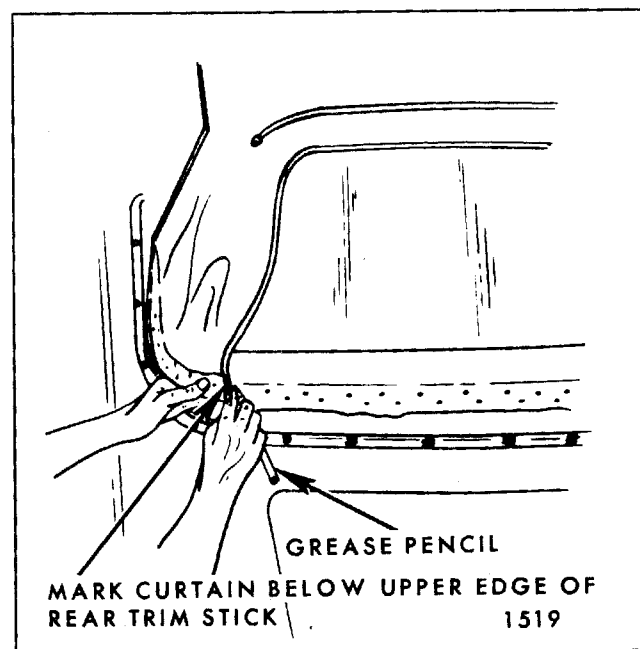

Fig. 6-35—Locating Edge Of Top Material
19. To establish relationship of right and left inner vertical edge of old top material to back curtain assembly at rear trim stick location, mark back curtain material at both locations with a grease pencil (Fig. 6-35).